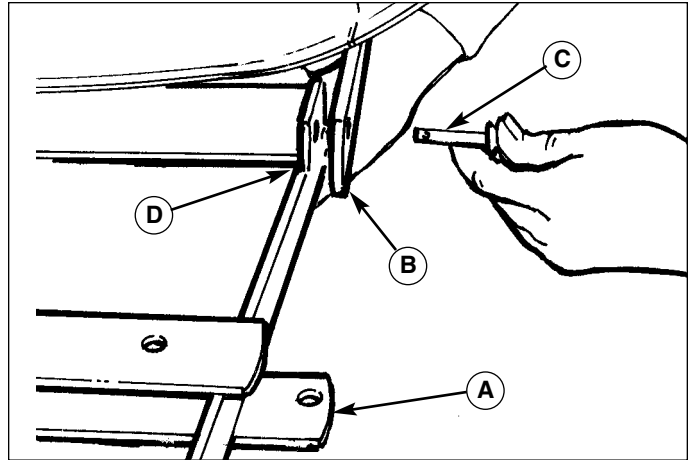

Figure 15.
3. See Figure 15. Align the mounting holes in the rear corners of the push bar (A) with the mounting holes in the hitch (B), and secure the push bar to the hitch with a clevis pin (C), and safety clip (D) at each corner.